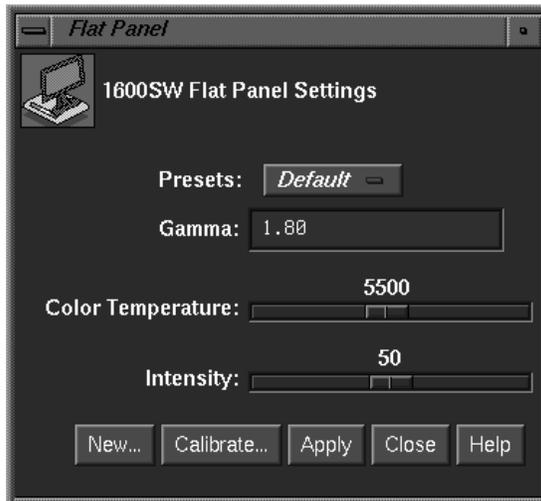
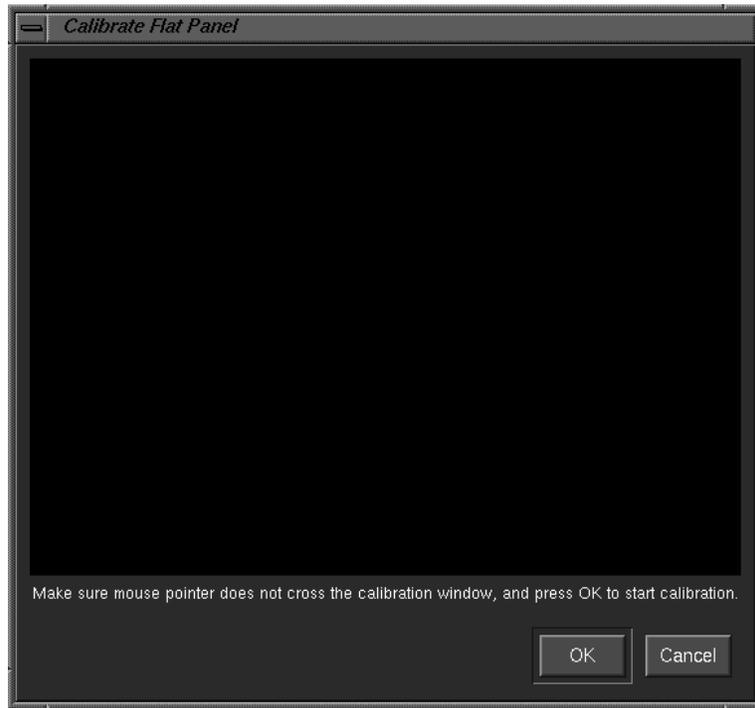

Figure 2-2 1600SW Flat Panel Settings Control Panel
Figure 2-3 Calibrate Flat Panel Window
You can adjust various flat panel monitor settings, including the color temperature, intensity (brightness), and gamma with the Flat Panel Settings control panel (Figure 2-2). You can also use the control panel to calibrate your monitor to achieve the most accurate settings possible.
There are several ways to start the Flat Panel Settings control panel (Figure 2-2):
1. From the Flat Panel Settings control panel, click *Calibrate*. (See Figure 2-2.) The flat panel calibration window appears, as shown in Figure 2-3.